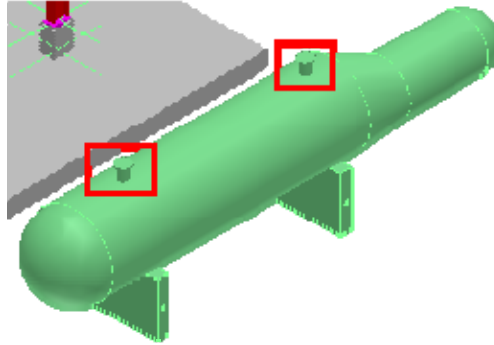

Figure 10: Output - Equipment After Placing Both Nozzles
9. Switch to the **Location** tab and select **Radial** in the **Placement Type** drop-down list, define the properties as **18 ft** for **N1**, **4 ft** for **N2**, and **270 degree** for **OR1**. Click **OK**. This places the second nozzle as shown in Figure 10.